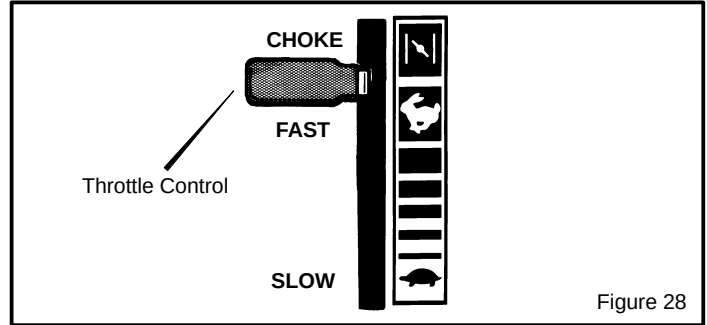

Figure 28
1. Move the **throttle control** to the FAST position (Figure 28).